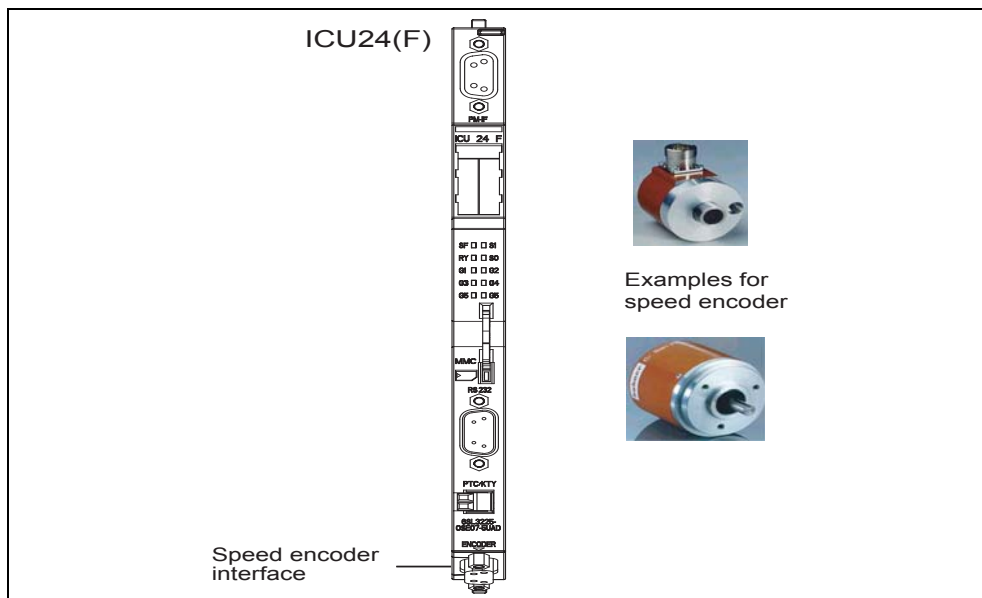

Fig. 7-8 Speed encoder interface with typical speed encoders
For closed-loop Vector control with speed encoder (VC), an HTL speed encoder is required in the motor that is referred to ground (so-called single-ended) encoder (examples, refer to Fig. 7-8). The connection at the ICU24(F) control unit is realized through a 9-pin sub-D socket connector. The power supply voltage (24 V) is provided through the control unit.